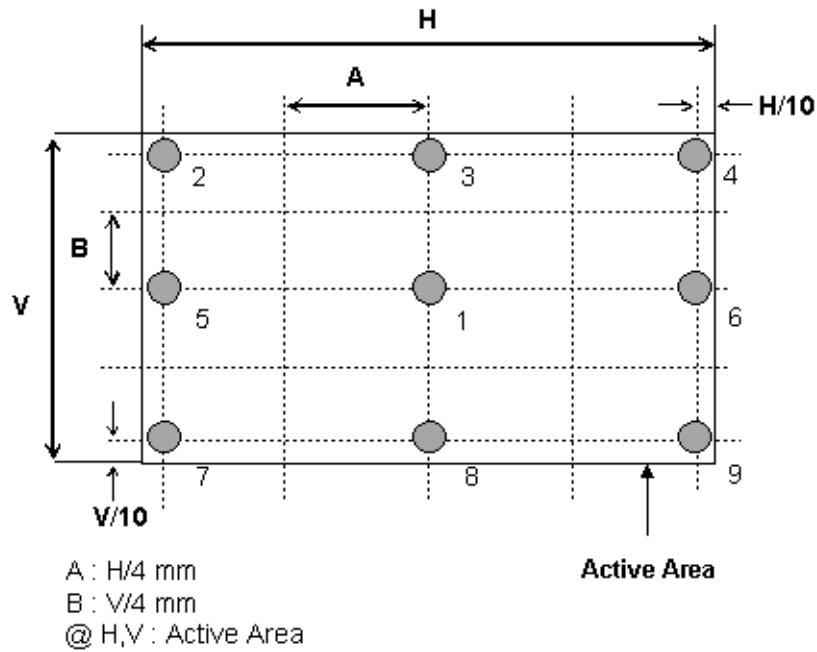

FIG. 2 Measure Point for Luminance
2. Surface luminance(LwH)is luminance value at center point(P1) across the LCD surface 50cm from the surface with all pixels displaying white. For more information see FIG 2.
For more information see FIG 2.